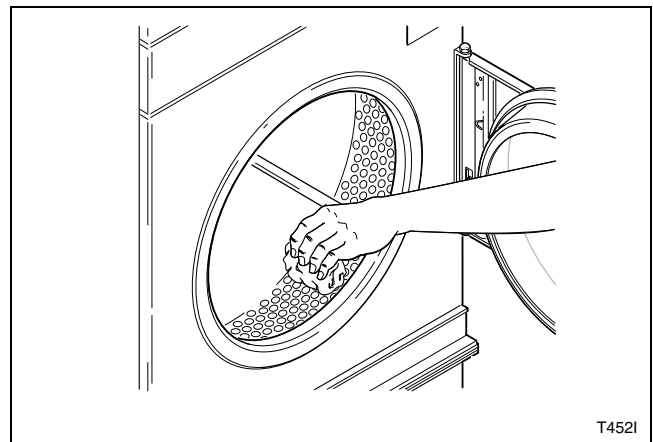

Figure 8
9. Wipe out the cylinder using an all-purpose cleaner or detergent and water solution. Refer to *Figure 8*.